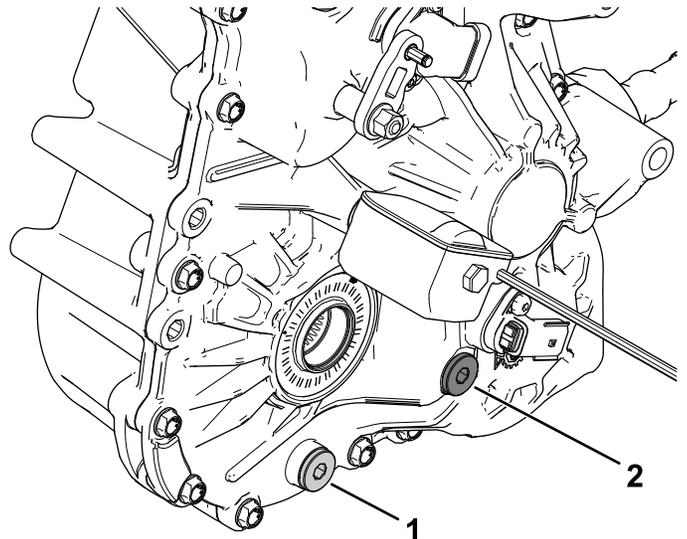

Figure 52
4. Remove the fill plug on the transaxle (Figure 52).
5. If the fluid level is low, remove the fill plug and add the specified fluid until it runs out of the hole (Figure 52).
1. Align a drain pan under the drain plug (Figure 52).
2. Remove the fill plug (Figure 52).
3. Remove the drain plug, and allow the fluid to drain completely (Figure 52).